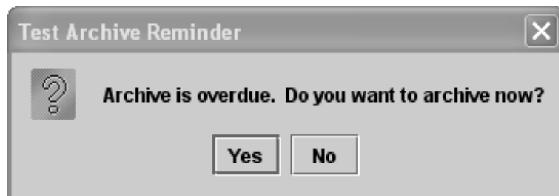
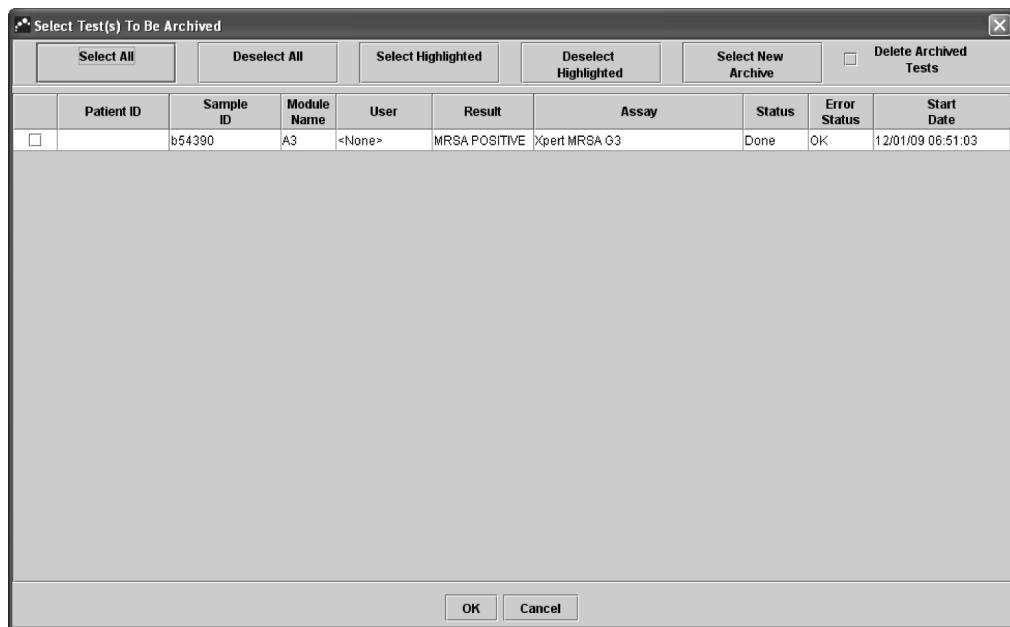

Figure 5-11. Test Archive Reminder dialog box
Figure 5-12. Select Test(s) To Be Archived dialog box
If an archive is overdue, the Test Archive Reminder dialog box appears (Figure 5-11).
- Click **No** in the Test Archive Reminder dialog box (Figure 5-11). The Test Archive Reminder dialog box disappears from the GeneXpert Dx System window.
- Click **Yes** in the Test Archive Reminder dialog box (Figure 5-11). The Select Test(s) To Be Archive dialog box appears (Figure 5-12).